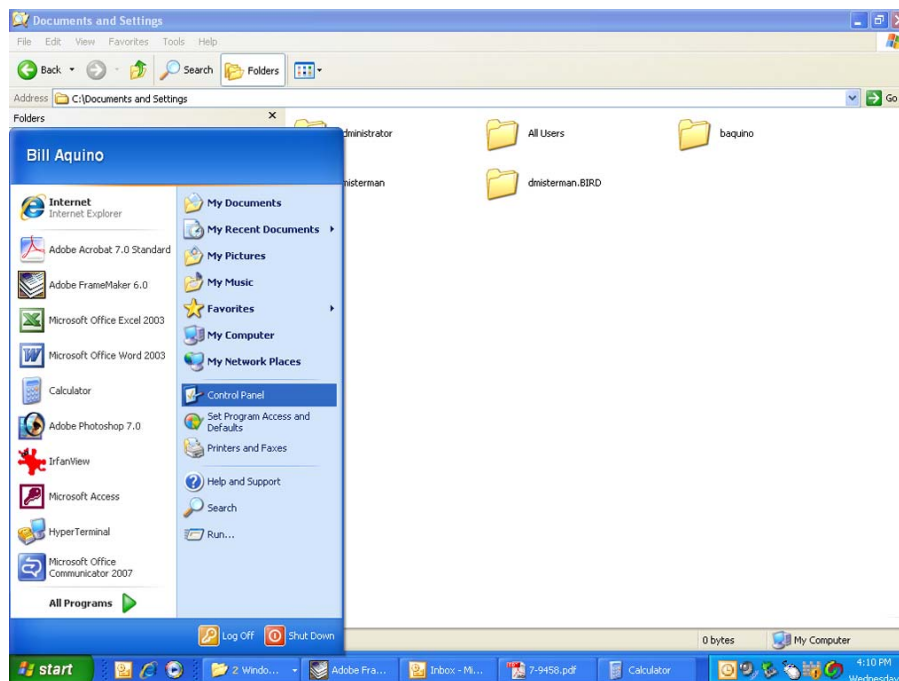

Figure B1: Choose the “Control Panel” icon.
- 2) Single click the “Control Panel” choice from the “Start” pop-up menu as shown in **Figure B1**.